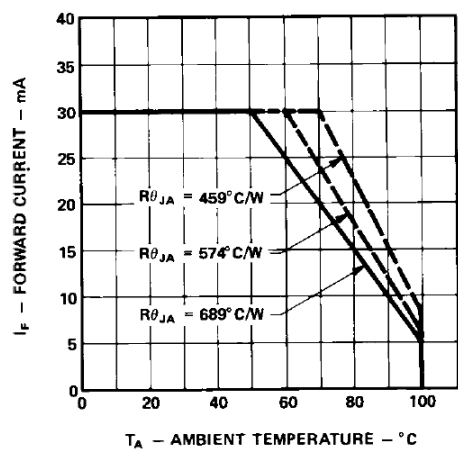

Figure 5. Maximum forward dc current vs. ambient temperature. Derating based on $T_J \text{ MAX.} = 110^{\circ}C$.
3. Derate linearly as shown in Figure 5.